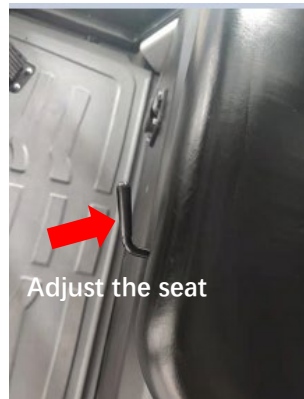

Fig. 18
1. After sitting in the seat, pull the adjusting lever upwards to move the seat back and forth. Release the adjusting lever after moving in place, as shown in the figure (Fig. 18).